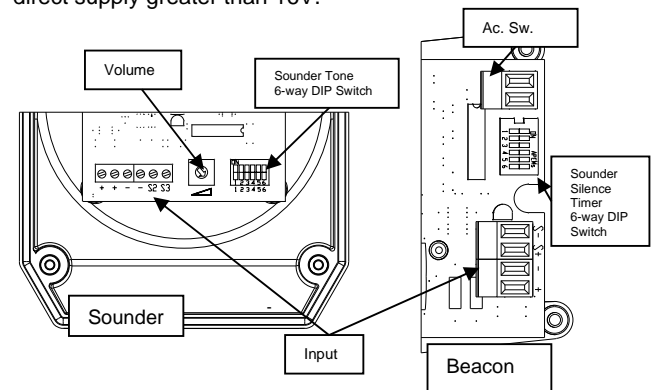

Fig 2 Location of field terminals and controls.
- Remove the PVC grommet and fit a M20 x 1.5 cable gland or conduit entry into the hole in the enclosure and connect the field wiring to the appropriate combined sounder beacon terminals as shown in sections 5 & 6 and fig 2 of this manual. The power supply terminals + and - are duplicated so that combined sounder beacons may be connected in parallel, or an end of line monitoring resistor may be fitted.
- Select the required sounder output tone by positioning the 6-way DIP switch as shown in Table 2.0 and Fig 2.
- If required, set sounder silence timer delay using the 6-way DIP switch as shown in Table 3.0 and Fig 2.
The output level of the IS-DL105 combined sounder beacon can be set by adjusting the volume control potentiometer (see Fig 2).
**Tone Selection** – To select the required first stage tone set the tone switches 1 to 6 (see Fig 2) to the tone setting shown in the table below. The table also shows which 2nd and 3rd stage tones are available for use with the selected first stage tone if more than one tone output stage is required.